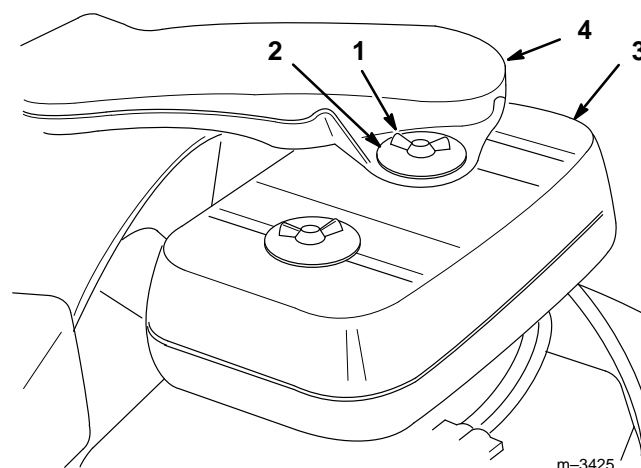

Figure 26
3. Clean around the air cleaner to prevent dirt from getting into the engine and causing damage (Fig. 26).
4. Remove the wing bolts, washers, air intake duct, and air cleaner cover (Fig. 26).